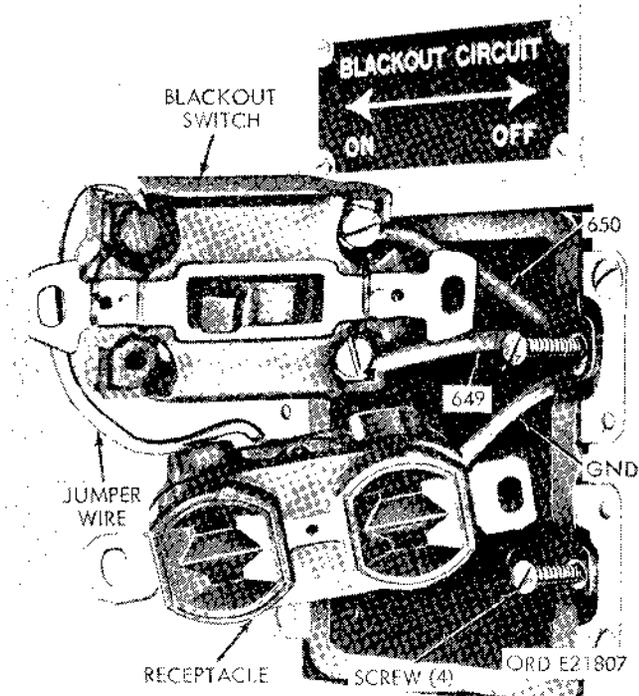

Figure 2-245. 110-volt receptacle and blackout switch.
d. 110-Volt Receptacle and Blackout Switch (Fig. 2-245).